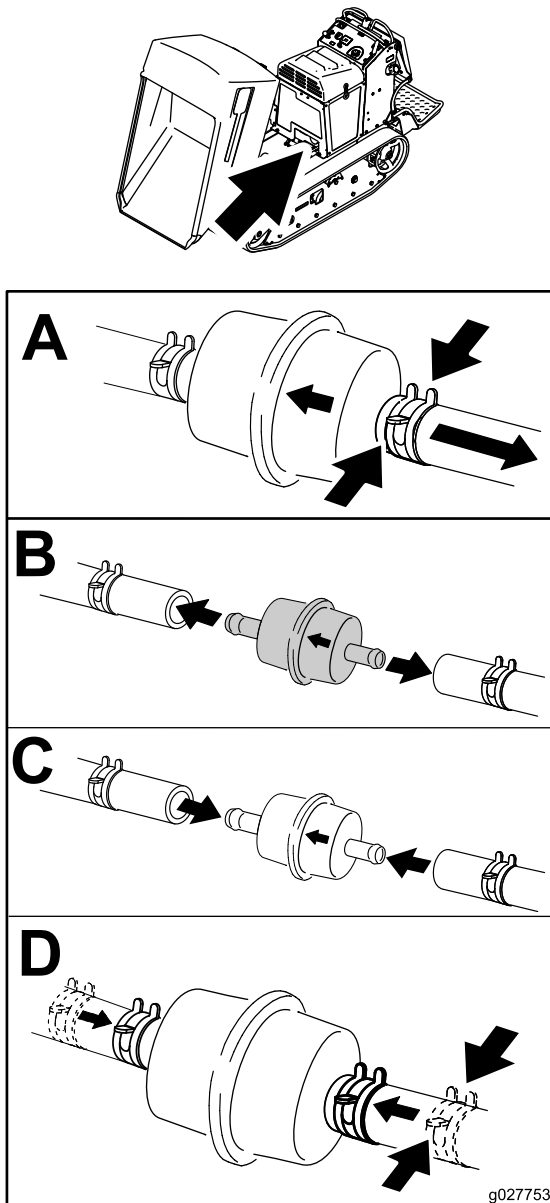

Figure 28
3. Replace the fuel filter as shown in Figure 28.